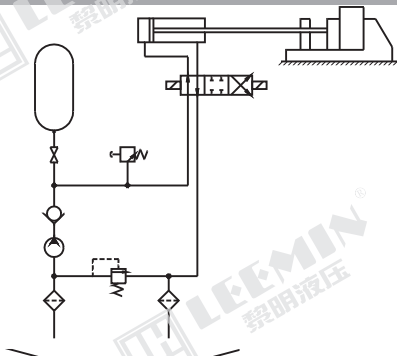

图6
5. 当长时间需要恒定静态压力时，蓄能器是必不可少的，因为它将补偿由于接头、密封等渗漏而造成的压力损失，而且能平衡在循环运行过程中可能发生的压力波动。典型用途为夹紧系统(如图6)、负载平台、筑路压力机润滑系统等。
As a constant static pressure is required for a long period ,an accumulator is indispensable as it will compensate for pressure loss due to leakage through joints ,seals etc .as well as balancing pressure peaks which may occur during the operating cycle .Typical applications are found in closing system (fig 6) loading platforms ,curing presses ,machine tools ,lubricating systems ,etc .